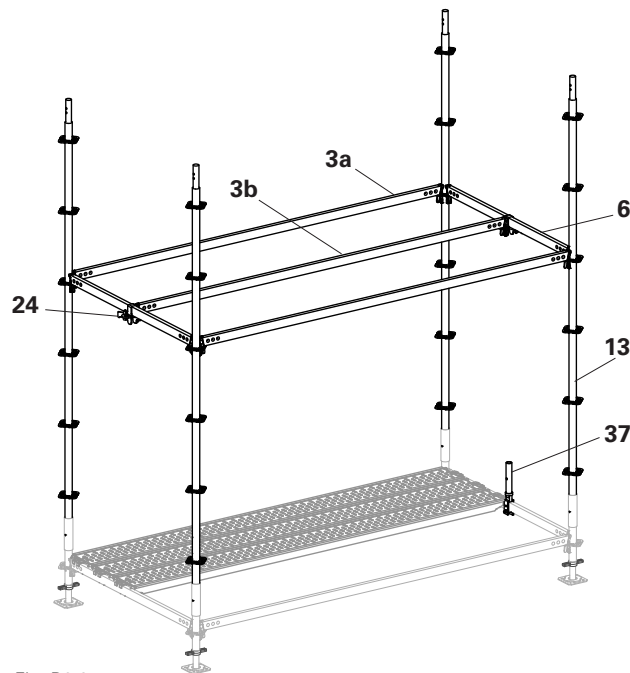

Fig. B3.04
5. Attach the UH Spigot-2 (**37**) to the Ledger UH-2 150 below. (Fig. B3.04)